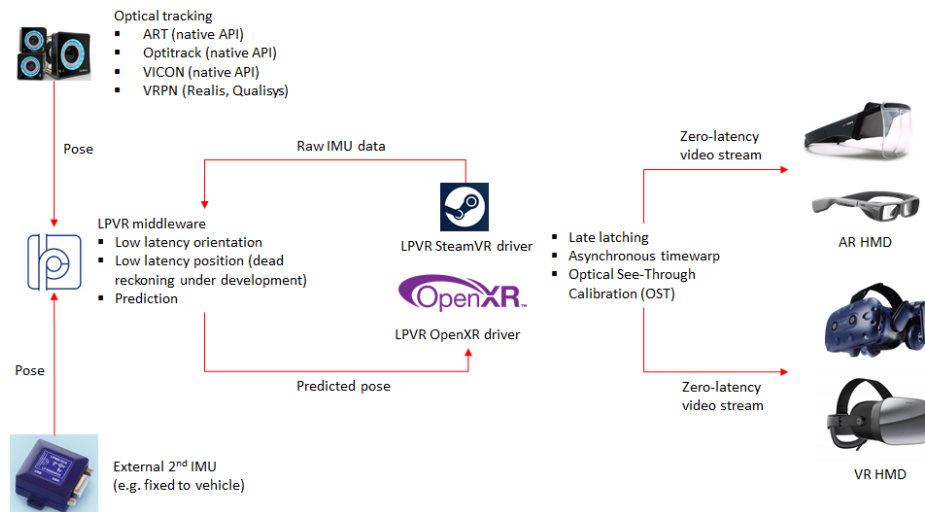

Figure 2 - Overview of complete LPVR middleware functionality.
Building on the technology that we developed for our IMU sensors and large-scale VR tracking systems, we have created a full motion tracking and rendering pipeline for virtual reality (VR) and augmented reality (AR) applications. This middleware as shown in Figure 2 is a full solution for AR / VR that enables headset manufacturers to easily create a state-of-the-art visualization pipeline customized to their product. This middleware is the core of LPVR. Specifically, the middleware offers the following features: